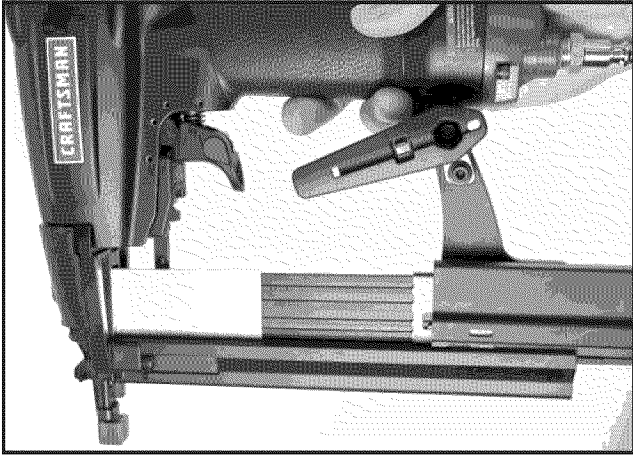

Figure 5—Loading Nails
- Load Nails: Place nail strip so that the chisel points rest on the bottom of the magazine. (See Figure 5)